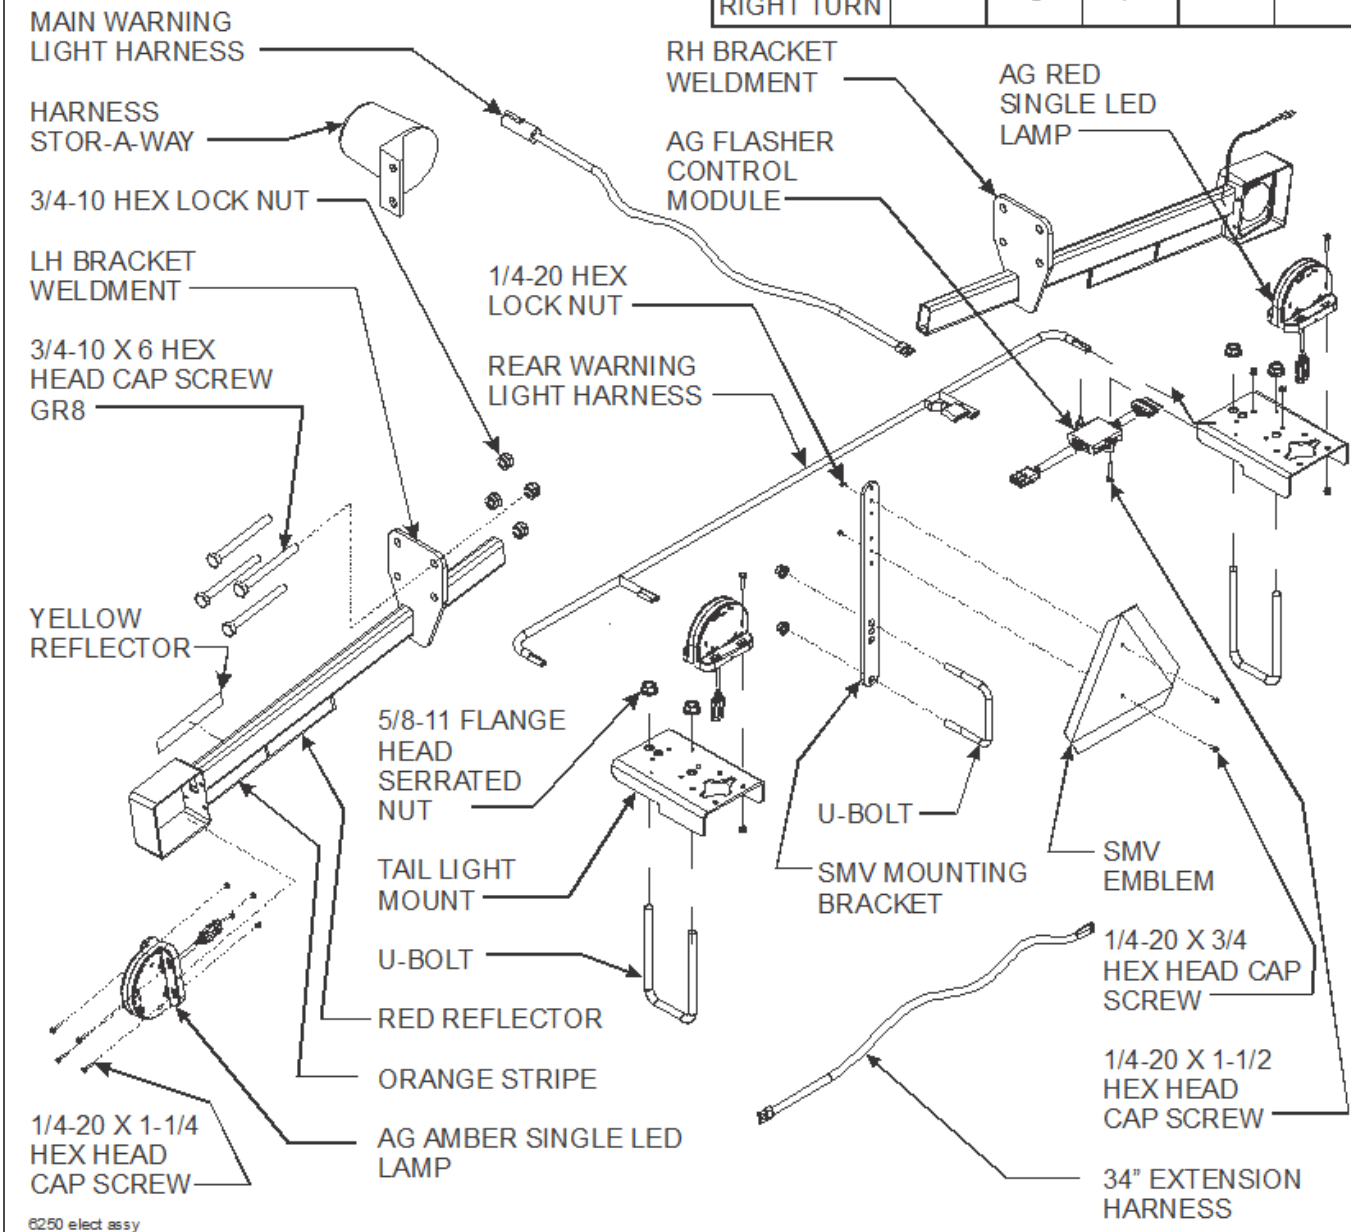

Figure 3-22: Light and SMV Bracket Installation
1. Attach lights and mounting brackets to the center frames using u-bolts, 3/4-10 x 6 hex head cap screws, hex nuts, and hex lock nuts (**See Figure 3-22.**) Refer to pages 2-6 thru 2-11 for light bracket placements.
6. Install the rear warning light harness to the frame. Connect 2 pin and 3 pin ends to each of the warning lights. Connect 6 pin to the ag flasher control module. **See Figure 3-22 for LED harness wire designations.**